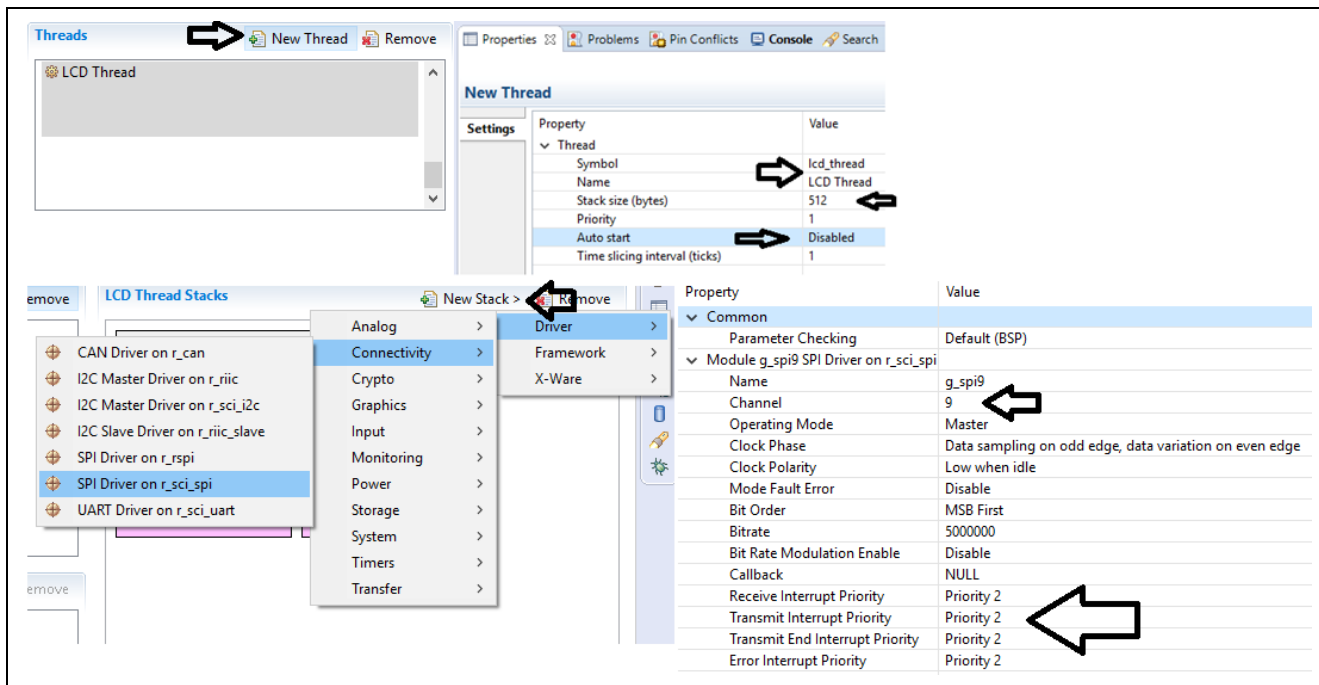

Figure 11 Adding SPI driver module
2. Set the property of this new thread, as shown in Figure 11.
3. In the **LCD Thread Stacks** window, click 'New Stack' to add the SPI driver module, `r_sci_spi`, as shown in Figure 11.
4. Go to the **Properties** tab for SPI driver, select the channel and set the interrupt priorities, as shown in Figure 11.
Go to the **Pins** tab and change the pin configurations for the following ports, as shown in Figure 11: